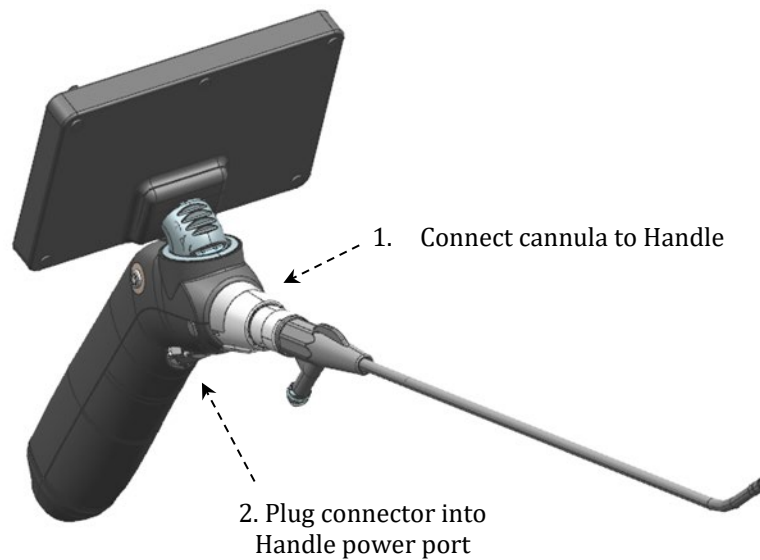

Figure 2: Cannula Attachment
- 5.2.4. Once cannula is connected, insert the male USB connector of the disposable cannula into the USB female connector on the handle. See Figure 2.
- 5.3.3. Attach the cannula to the handle. Refer to Section 5.2 Figure 2.